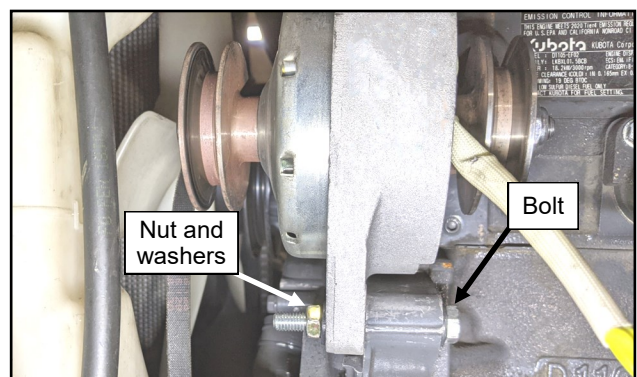

Fig. 2.3 (Mount new Dynamo)
- 2.3 See fig. 2.3. Mount the new dynamo in the original location. Ensure the bolt starts on the engine side and the washers and nut are on the dynamo side. Do not fully tighten the hardware at this time.